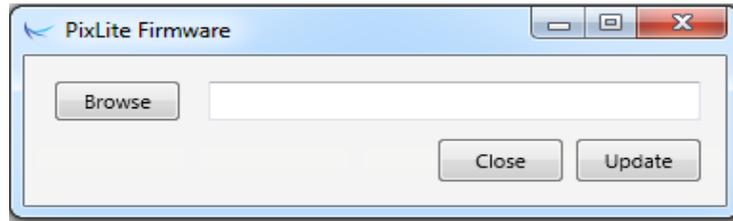

Figure 7
2. A configuration window will appear. Click on the “Misc” tab and then locate the “Upgrade Firmware” button and click on it. A “firmware update” window will appear (as shown in Figure 7). Click “browse” to locate the firmware file you wish to download.
3. Using the Assistant, click search in the main window and you should see the controller appear with “bootloader” in the firmware column. Double clicking on it will bring up the file browse window (as shown in Figure 7).